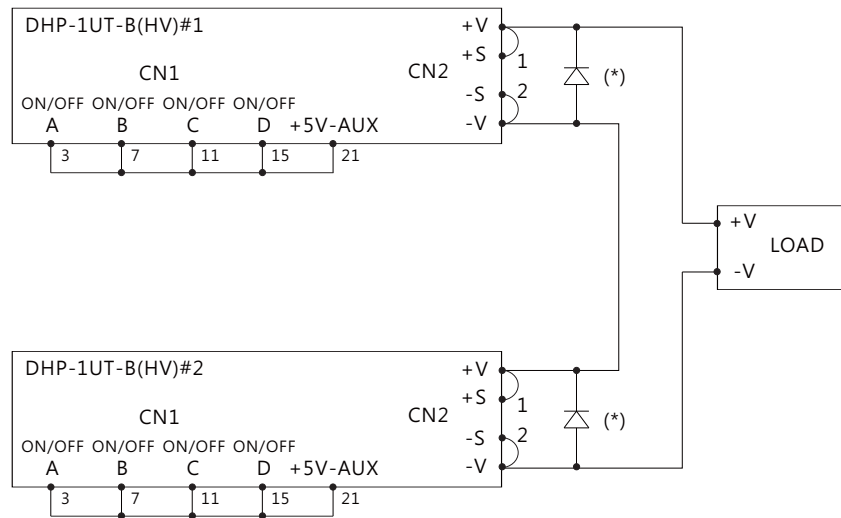

Figure 5-11 Configuration of rack shelf units in series
- The rack shelves connected in series should have the identical rack supplies. Please refer to Figure 5-11 for wiring configuration.
- It is suggested that add external diodes (\*) on the output, shown in Figure 5-11, to prevent reverse voltage. Rating of these diodes should be higher than the total amount of output voltage and current.